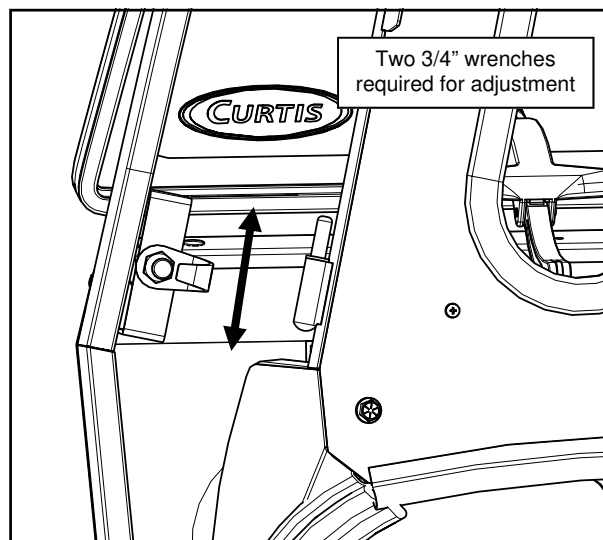

Fig. 18.3a (Door Striker Pin Adjustment)
- Adjust the striker pin on the side frame vertically - See Fig. 18.3a